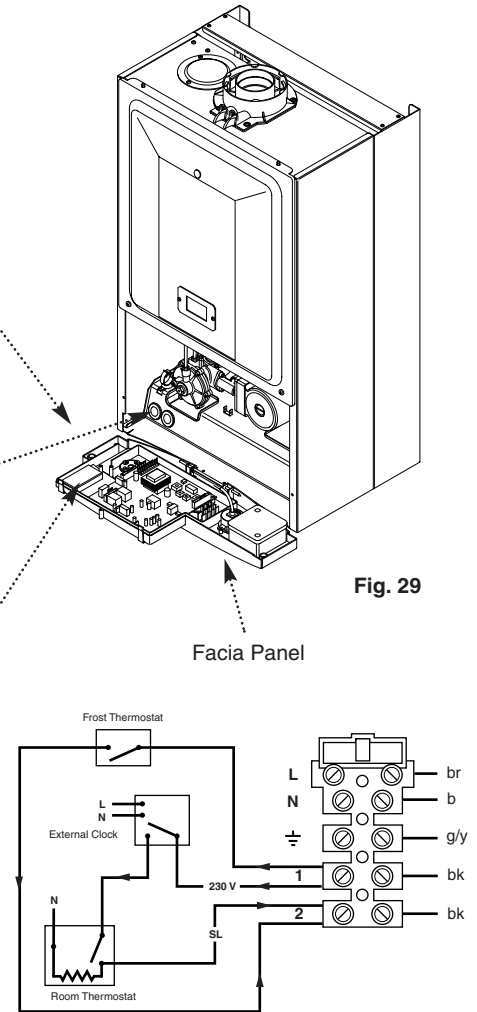

Fig. 29
2. Completely undo the screws securing the fascia panel and hinge it down (Fig. 29).